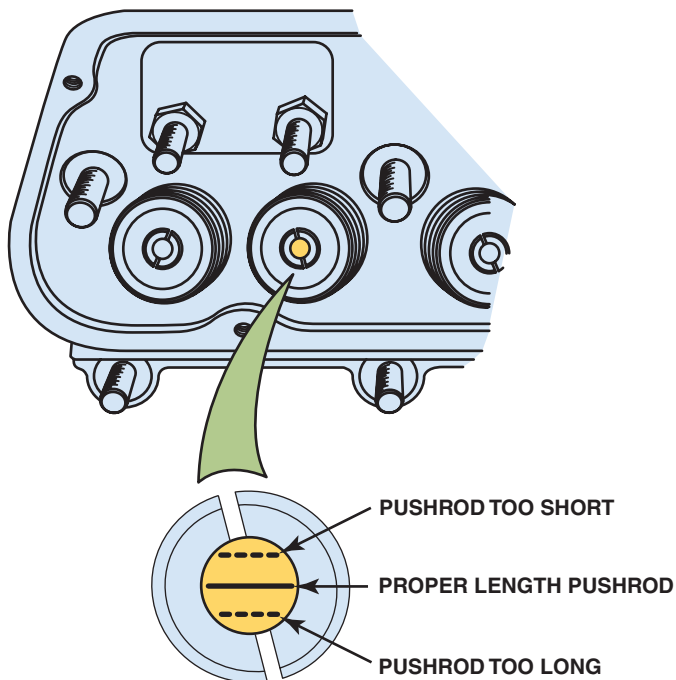

FIGURE 33-16 Checking where on the valve stem the marker has been worn off by the rocker arm, is the method to use to check for proper pushrod length.
- If the marker has been worn off toward the upper part of the valve stem (toward the intake side of the head), the pushrod is too short. ● **SEE FIGURE 33-16.**